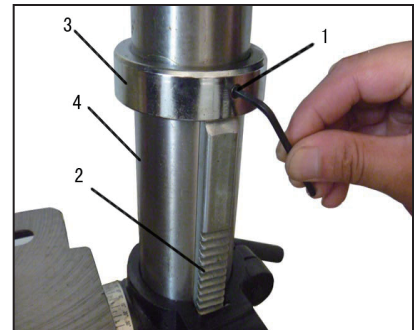

Figure 2C
- 2.4 Slide rack retaining ring (3) over column with beveled edge down. Position ring against top of rack so that rack is in beveled edge of ring. **Fig. 2B** Secure ring with hex wrench (1). **Fig. 2C**